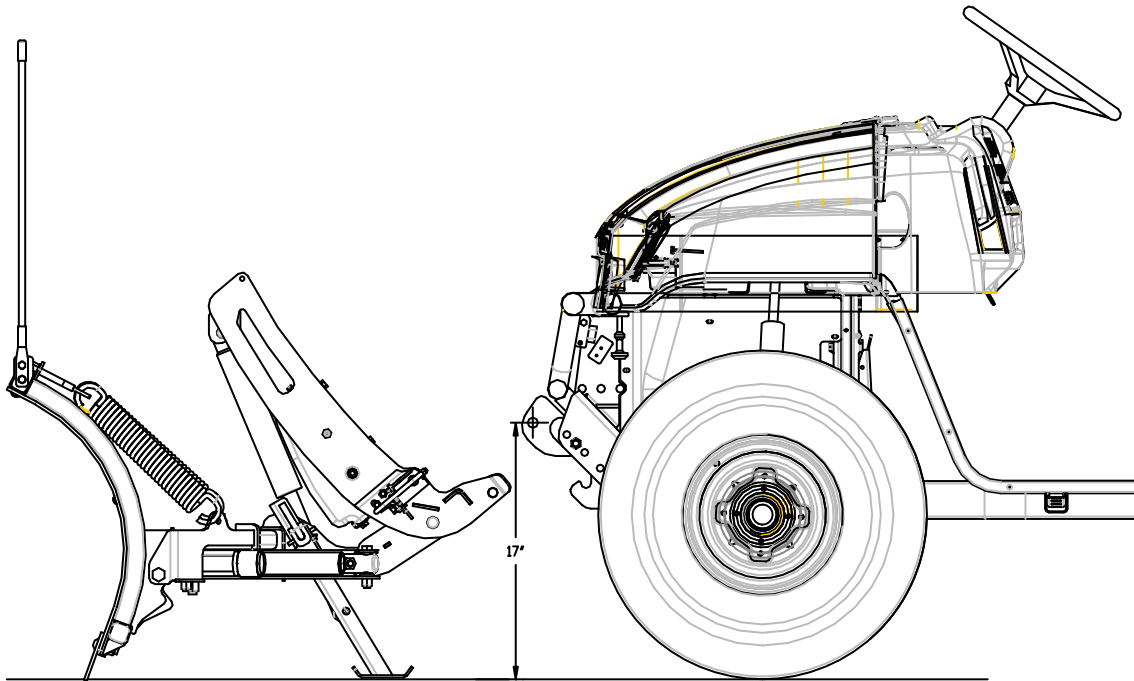

Figure 2
6. Place Pushbeam Support Plate Spacer (63) between Driver Side Pushbeam Support Plate (62A), only one hole of Pushbeam Support Plate Spacer (63) will be aligned. Skip to Step 8.
7. Align Driver Side Pushbeam Support Plate (62A) and Pushbeam Support Plate Spacer (63) with square holes in vehicle frame.
8. Attach Driver Side Pushbeam Support Plate (62A) and Pushbeam Support Plate Spacer (63) to vehicle frame using 3/8" Carriage Bolts (C) and 3/8" Nylon Lock Nuts (D). Fasteners should be finger tight.
9. Using 3/8"-16 X 1" Hex Head Cap Screw (A), 3/8" Washers (F), and 3/8"-16 Nylon Lock Nuts (D), attach Skid Plate Assembly (75) and Driver Side Pushbeam Support Plate (62A) to Front Bumper on front side of Front Bumper. Fasteners should be finger tight.
NOTE: The proper height adjustment for the Pushbeam (62) is approximately 17" from the ground to the center of Pushbeam (62) pin-receiving hole (See Figure 2) for Plow System.
11. Using 3/8"-16 X 1" Hex Head Bolts (A), 3/8"-16 Nylon Lock Nuts (D), 1/2"-13 X 1-1/2" Hex Head Bolts (B), and 1/2"-13 Nylon Lock Nuts (E), mount Pushbeam Assembly (62) to Skid Plate Assembly (75).